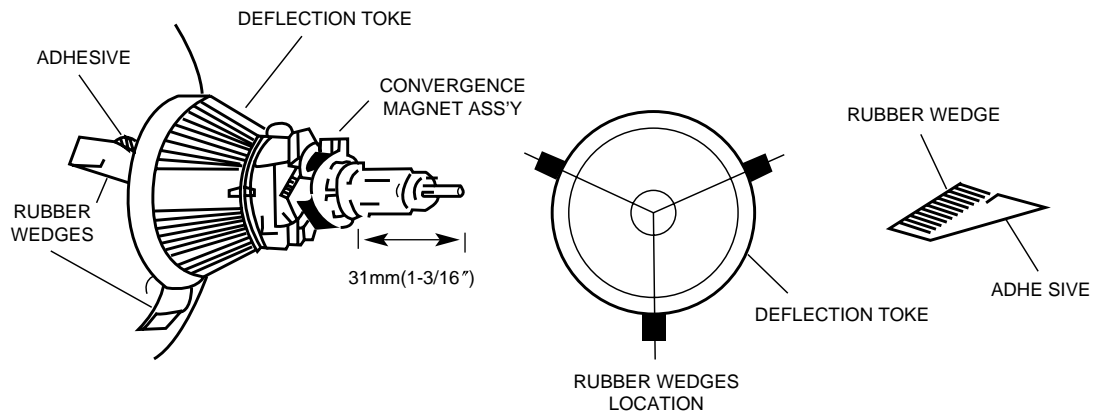

FIGURE 1. COLOR PURITY ADJUSTMENT
4. Loosen the clamp screw holding the yoke and slide the yoke backward to provide vertical green belt (zone) in the picture tube. (See Figure 1)
2. Place a wedge as shown in Figure 1 temporarily.
9. Stick the glass cloth tapes on 3 wedges as shown in Figure 1.